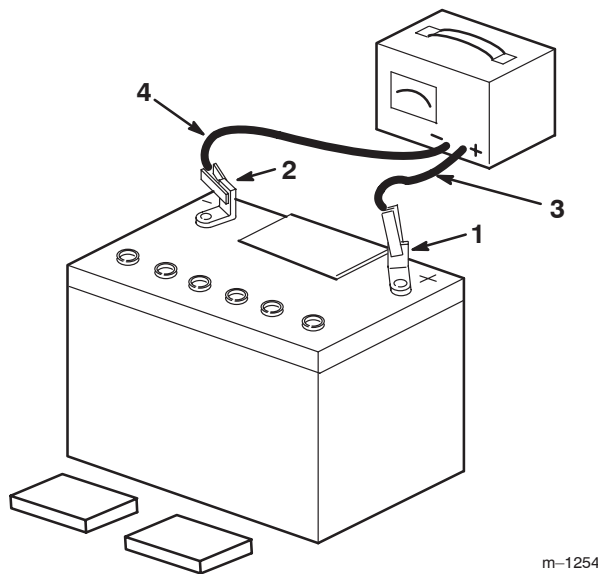

Figure 7
3. Leave the covers off and connect a 3 to 4 amp battery charger to the battery posts (Fig. 7). Charge the battery at a rate of 4 amperes or less for 4 hours (12 volts).
4. When the battery is fully charged, disconnect the charger from the electrical outlet then from the negative and positive battery posts (Fig. 7).